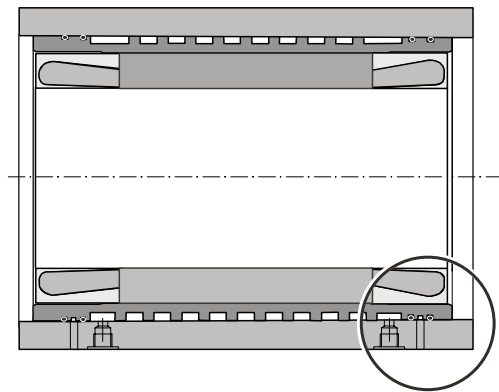

Fig. 16 Application of anti-corrosion agents
3. A suitable anti-corrosion agent for steel is applied to those surfaces of the laminated stator and spindle housing which do not come into contact with cooling fluid (Fig. 16, item 4).